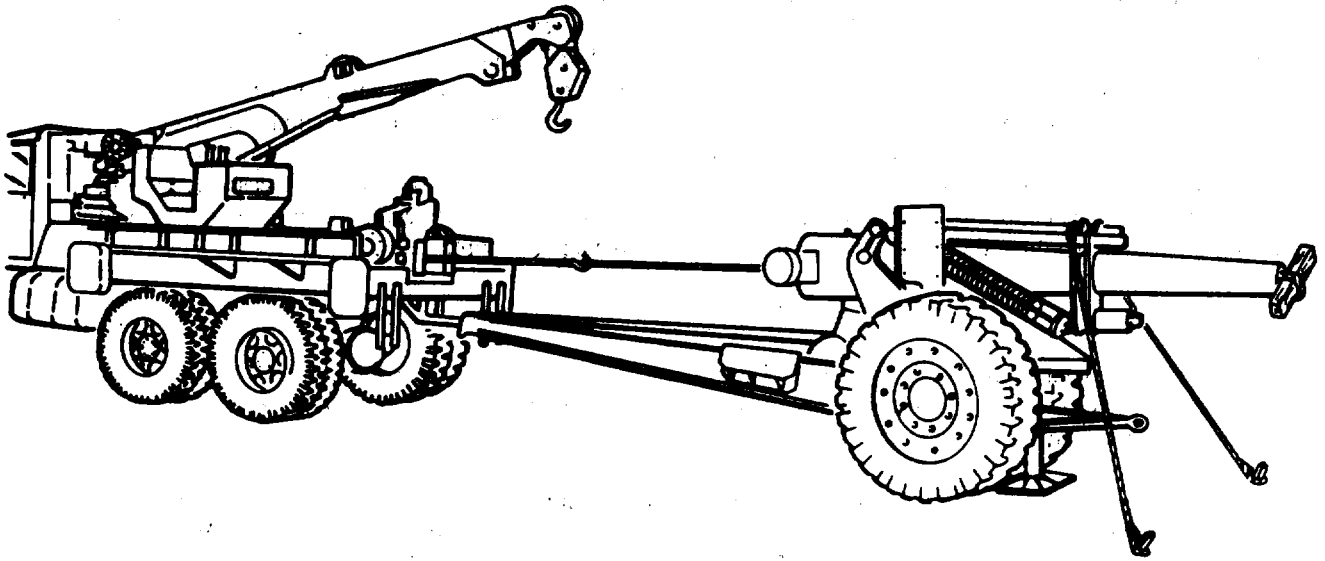

Figure 1-1. Exercising Recoil Mechanism of Towed Artillery in Traveling Position by using Winch on Wrecker Truck
(1) Use a rope or cable of sufficient strength and length to pull the cannon out-of-battery. The size rope needed is 1 1/2 inch; the size steel cable needed is 7/8 inch. Secure one end of the rope or cable to a 4 by 4 by 24 inch piece of wood, and install the rope or cable through the cannon bore (figures 1-1, 1-2, and 1-3). Adjust the cannon elevation so that the rope or cable installed through the bore and connected to a winch will not rub the rifling. To prevent the rope from being damaged, it should be bent over a sleeve instead of a small diameter hook or cable. Select a winch with the necessary capacity for the amount of pull required. If a winch of the necessary capacity is not available, a block and tackle may be used with the winch, or independently, to increase the pulling force. If a steel cable is used, protect the lands and grooves with strips of wood. Be careful that the material used for securing the rope or cable at the muzzle end will not slip and damage the bore.
c. Winch-Weapon In Traveling Position. Certain field artillery weapons (table 2-1) may be exercised in traveling position by connecting the weapon to a wrecking truck with a suitable winch (figure 1-1). Refer to paragraph 1-3d.